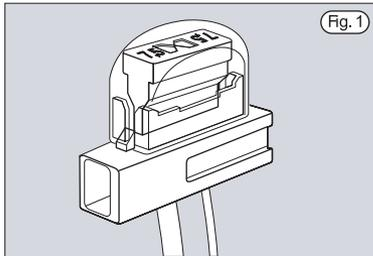

Fig. 1
- Remove brake fluid reservoir cover screws 1 (fig. 1) using the multifunction tool.
- Remove cover 2 (fig. 1) and gasket 3 (fig. 1).
Check the brake visually (fig. 1).
The lever of the rear drum brake is located on the handlebar l.h. side, and its play must not exceed 10 mm, Adjust if this value is exceeded. • Adjust the play by acting on register 1 (fig.1) located under the rear end of the transmission.
- Put the odometer transmission (2) on the right side of the wheel by inserting the transmission tang in the seat on the hub wheel (see figure 1).